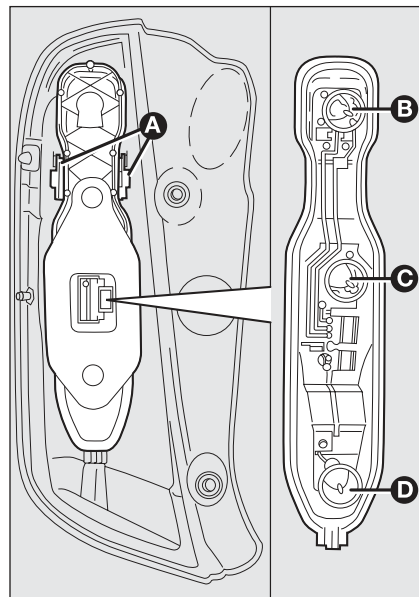

fig. 28
- press the bulb holder fastening tabs **A-fig. 28** and remove the bulb holder;
- remove bulbs **B-C-D-fig. 28** slightly pushing them and turning counterclockwise.